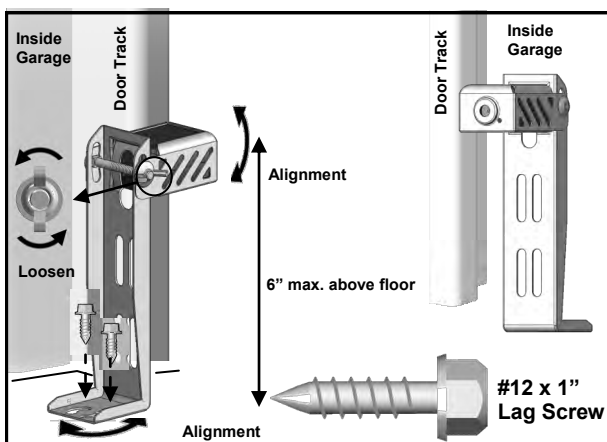

Fig. 2
1. Place the Photo Eyes facing each other on each side of the garage door, as shown in Fig.2.